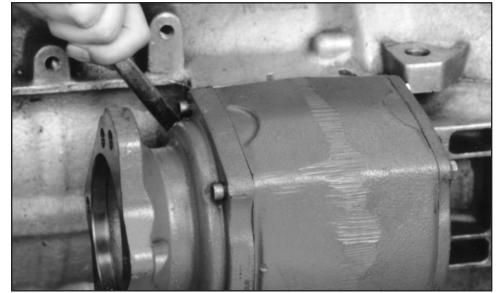

Figure 14
- Use self-locking nuts provided with PTO (**Fig 14**).